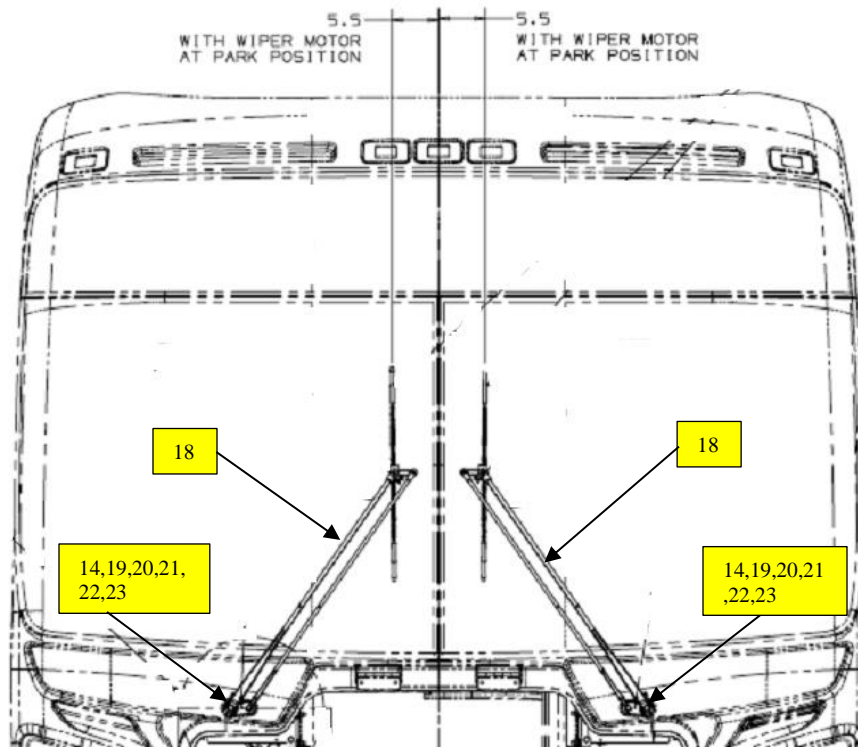

Figure 6: Wiper arm mounting location reference.
22. Reinstall both wiper arm assemblies to the wiper motor shaft. Adjust both wiper arms (Item #18) to 5.5 inches from the center of the windshield. See figure 6.